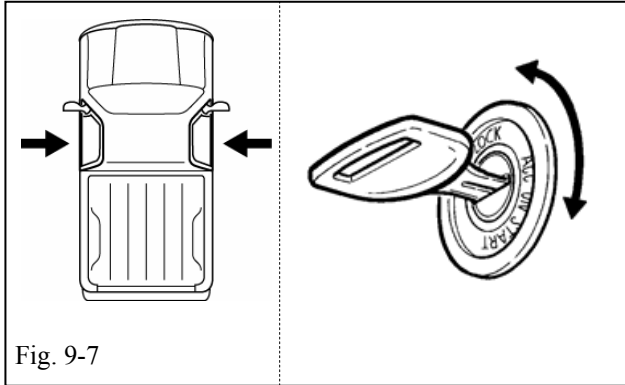

Fig. 9-7
- (i) Verify that all doors are closed. (Fig. 9-7)
- (1) Do not close the Hood.
- (j) Insert the key into the ignition and turn it from “OFF” to “ON” 5 times (ending at OFF). (Fig. 9-7)